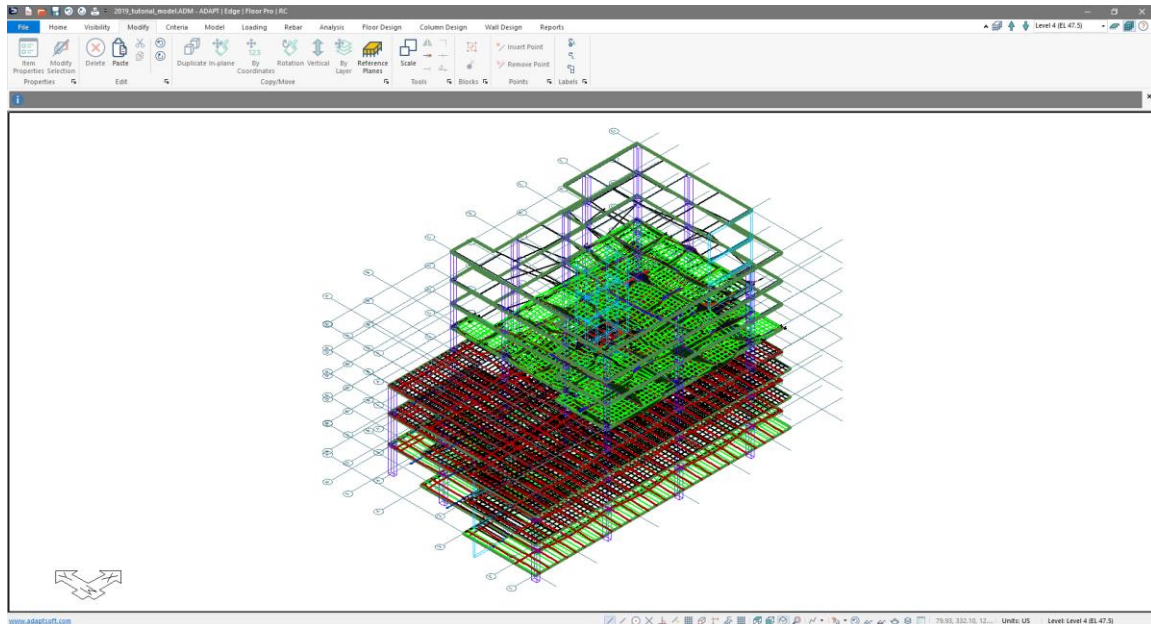

Figure 10-45
- Click on the *Top-Front-Right View*  icon in the **Bottom Quick Access Toolbar**. This will bring you to the view of the model shown in **FIGURE 10-45**.